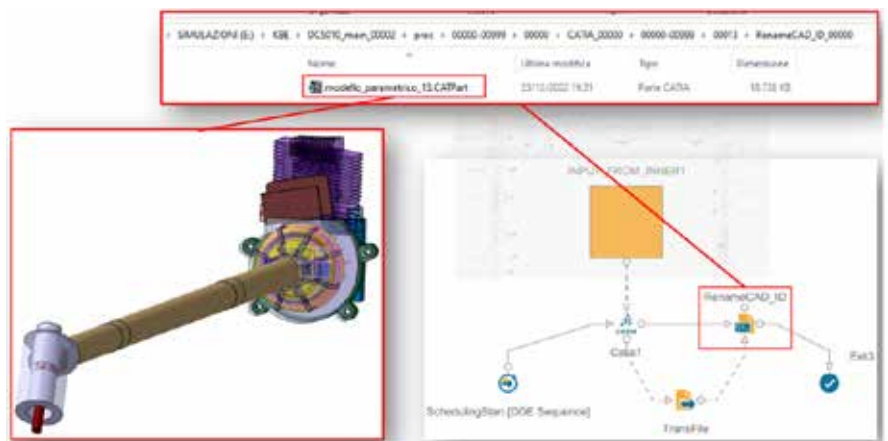

Fig. 5. The INNER2 workflow to automatically generate the CAD drawings.
- INNER2: automatically creates a CAD drawing from each Pareto front design. The CAD drawings are then numbered sequentially to allow them to be simultaneously opened by the user (see Fig.5).